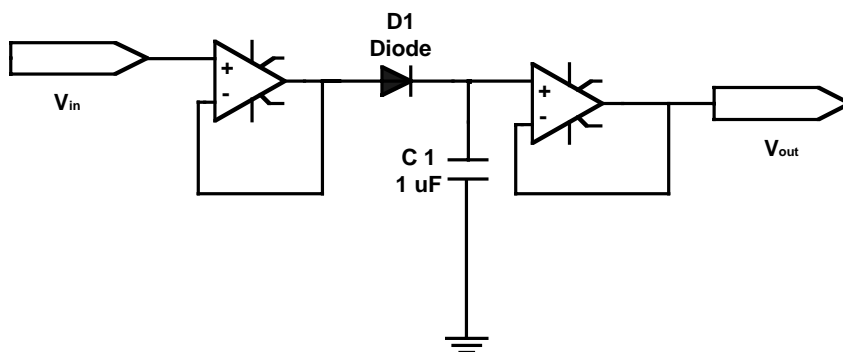

Figure 7: Peak Detector Circuit
- Ir (Reverse Current): The leakage current that a diode conducts when reverse biased. For example, in a peak detector circuit, low leakage is fundamental. Any leakage will cause the capacitor shown to discharge and the waveform to dip. See Figure 7 below.